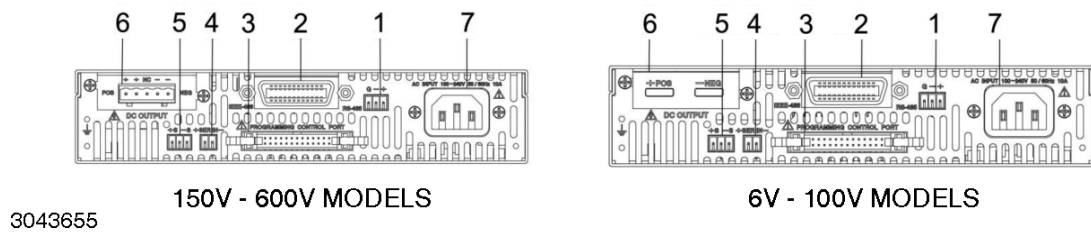

FIGURE 2-1. KLN 750W SERIES REAR PANEL
b) Rear Panel: Refer to Figure 2-1 (750W), 2-2 (1500W) or 2-3 (3000W) and Table 2-1.
Refer to Figure 2-1, 2-2 or 2-3 and Figure 3-1, 3-2, or 3-3 for location of operating controls and electrical connections. Tables 3-1 and 3-2 explain the functions of operating controls/indicators and keypad keys, respectively. Refer to PAR. 3.2 for a description of basic operating techniques.